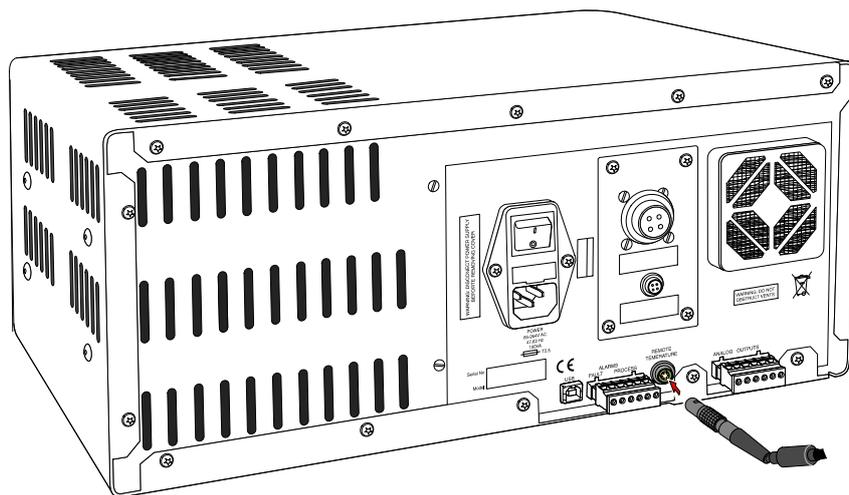

Figure 2.7 Remote PRT Connection
1. Rotate the body of the PRT probe connector until it locates in the socket labeled **REMOTE TEMPERATURE** (See *Figure 2.7*).
3. To remove the connector, slide the connector's body collar (1) back along its axis, away from the instrument, to release the lock and then gently pull the connector body out of the socket. **NOTE: Do not attempt to pull it out with the cable, make sure that the collar is first released.**